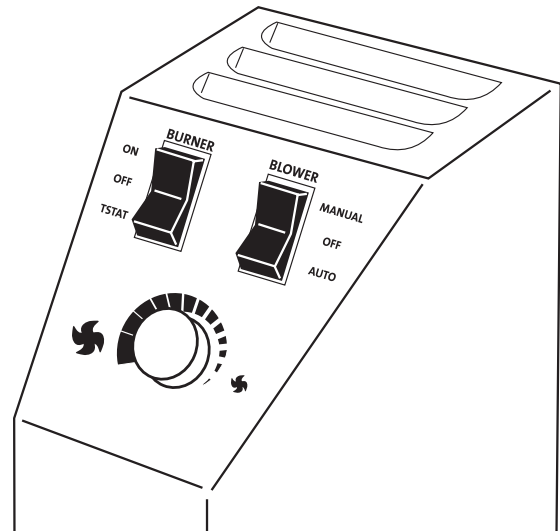

Figure 39. Burner Switch and Optional Blower Controls
1. Once the pilot is lit, burner operation is controlled by the rocker switch located at the left rear corner of the stove. Use the T-STAT position for the optional thermostat or remote control functions. See fig. 39.